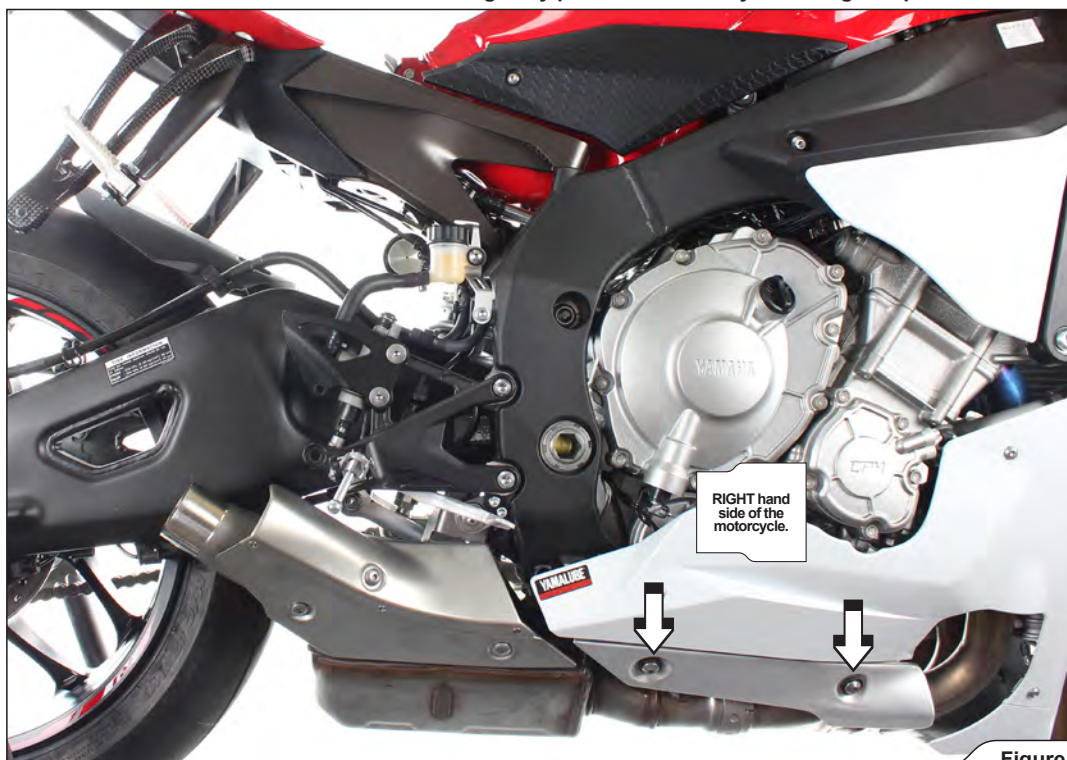

Figure 1
3. Unscrew marked bolts, unpin marked pins and carefully remove plastic cowlings on both sides off the motorcycle (Figure 1, 2).